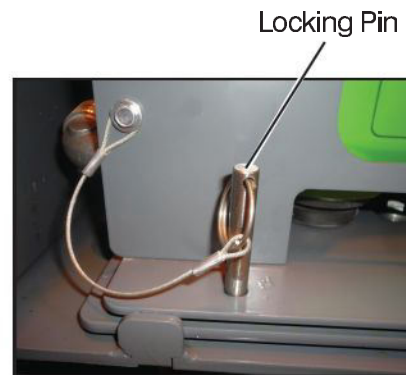

Figure 3-6. HPP Locking Pin
- 1. Remove locking pin (shown in Figure 3.6) and rotate HPP to access the HPP fuel on/off switch and air inflow on/off switch.